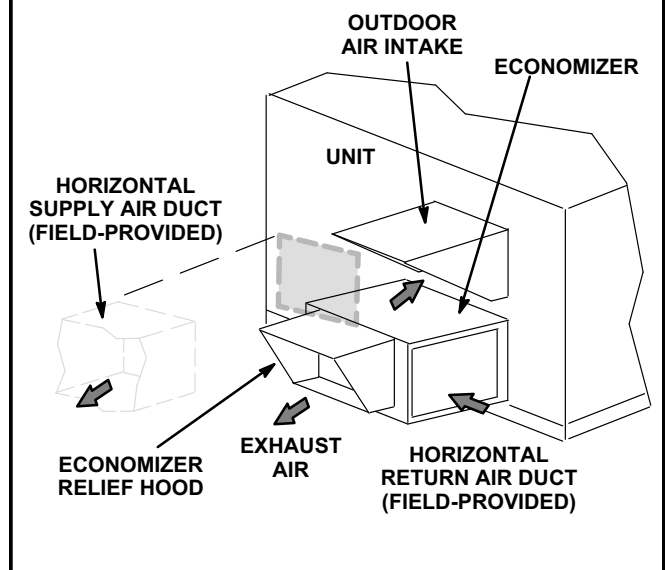

FIGURE 4
- 7- Cut an opening in the return air duct and install the economizer relief hood. See figure 4.